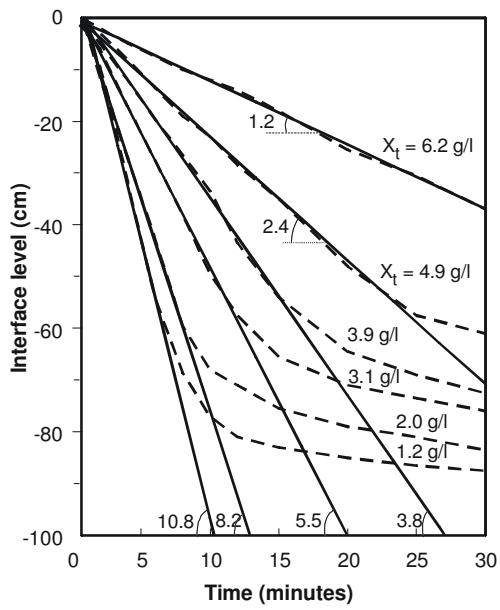

Figure 6.2
- (1) Plot the position of the interface as a function of time at different concentrations. Fig. 6.2 shows the data points and associated curves (dotted lines);
- (2) Decide which part of the curve may be considered as linear. In Table 6.1 these data points are marked in "bold";
- (3) Draw the best-fit straight line through the linear part of each curve. These straight lines are indicated in Fig. 6.2;
- (4) Determine the zone settling velocity (ZSV) as the gradient ($\Delta Y/ \Delta X$) of the straight lines. The values are indicated in Fig. 6.2;